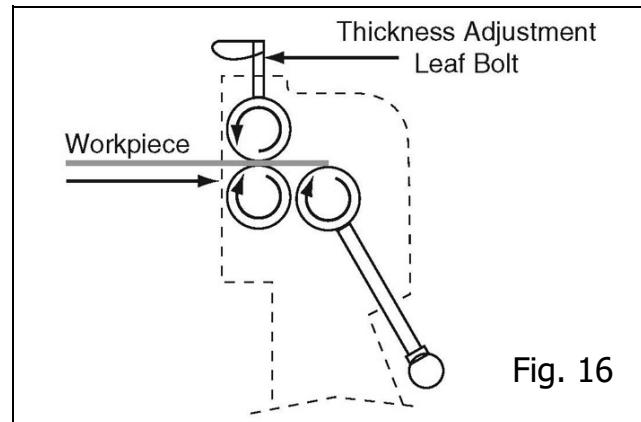

Fig. 16
2. Insert the workpiece between the upper and lower rollers and just over the rear roller, as illustrated in Figure 16, then snug the thickness adjustment leaf bolts down to secure the workpiece. Make sure you tighten the leaf bolts the same amount.